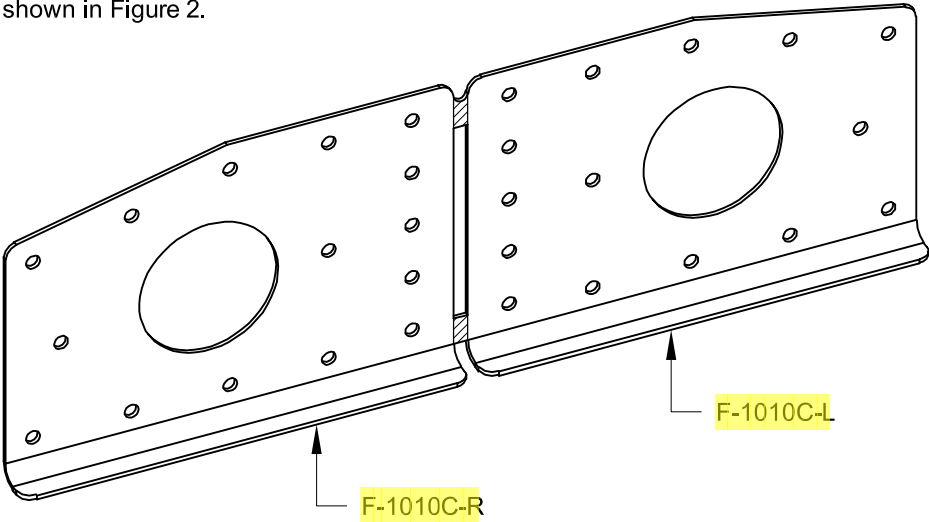

FIGURE 2: SEPARATING THE F-1010C BULKHEAD DOUBLER
Step 2: Separate the **F-1010C** Bulkhead Doubler into left and right parts by removing the shaded areas shown in Figure 2.